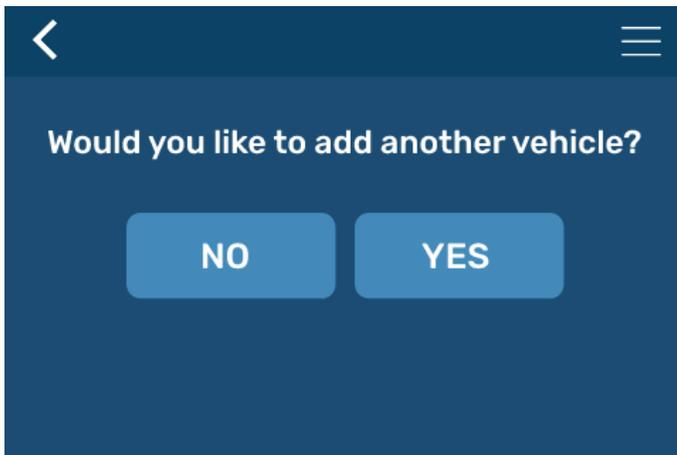

Fig.16
7. When pairing has been completed, the display will ask if another vehicle is to be added to the system (Fig.16). If tapping YES, pair the additional sensors in the proper sequence. If not, continue to Configure All Thresholds.